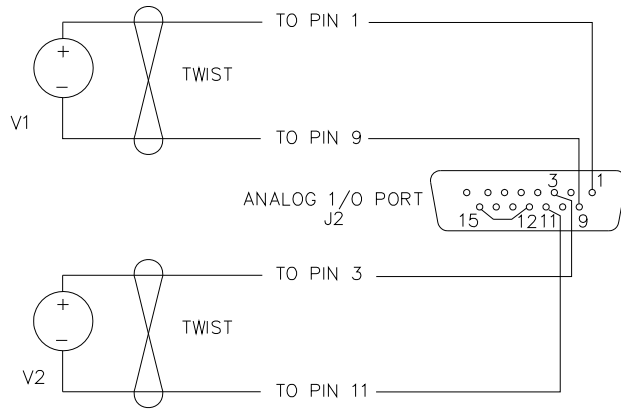

FIGURE 3-15. ANALOG PROGRAMMING OF OUTPUT VOLTAGE OR CURRENT USING VOLTAGE
Figure 3-15 is a simplified diagrams of the KLR showing the switch configuration and external connections required for analog programming using an external voltage.
3. Configure Analog I/O Port J2 (Figure 2-2) by referring to Table 2-7 and Figure 3-15 (grounding J1 pin 12 enables analog programming).
4. Turn the unit on and wait until **aRem** appears in the status display before using V1 and/or V2 (Figure 3-15) to programming the power supply output.